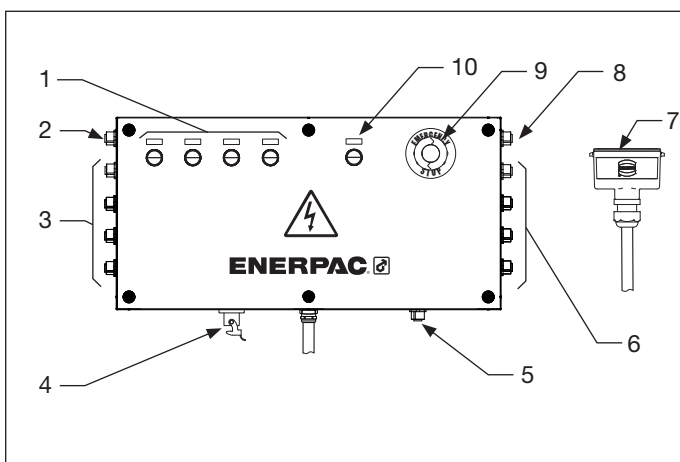

Figure 3, Major Components SFPKSS8
The Figure 3 shows the major components of SFPKSS8. Note the SFPKSS4 is a similar layout but with less connections for the stroke sensors and pressure transducers (numbers 3 & 6 in the Figure 3).
3. Push and hold during 5 seconds the Set Up Ok button on the SFPKSS4 or SFPKSS8 Sensor Junction Box. Refer to Figure 3, button number 10. The light will begin to flash rapidly and then stop and remain solid once the IP address is properly assigned.
Connect the SFPCOMM-25 cable to the SFPKSS4 or SFPKSS8 communication plug. Use the connector number 5 according to the Figure 3.